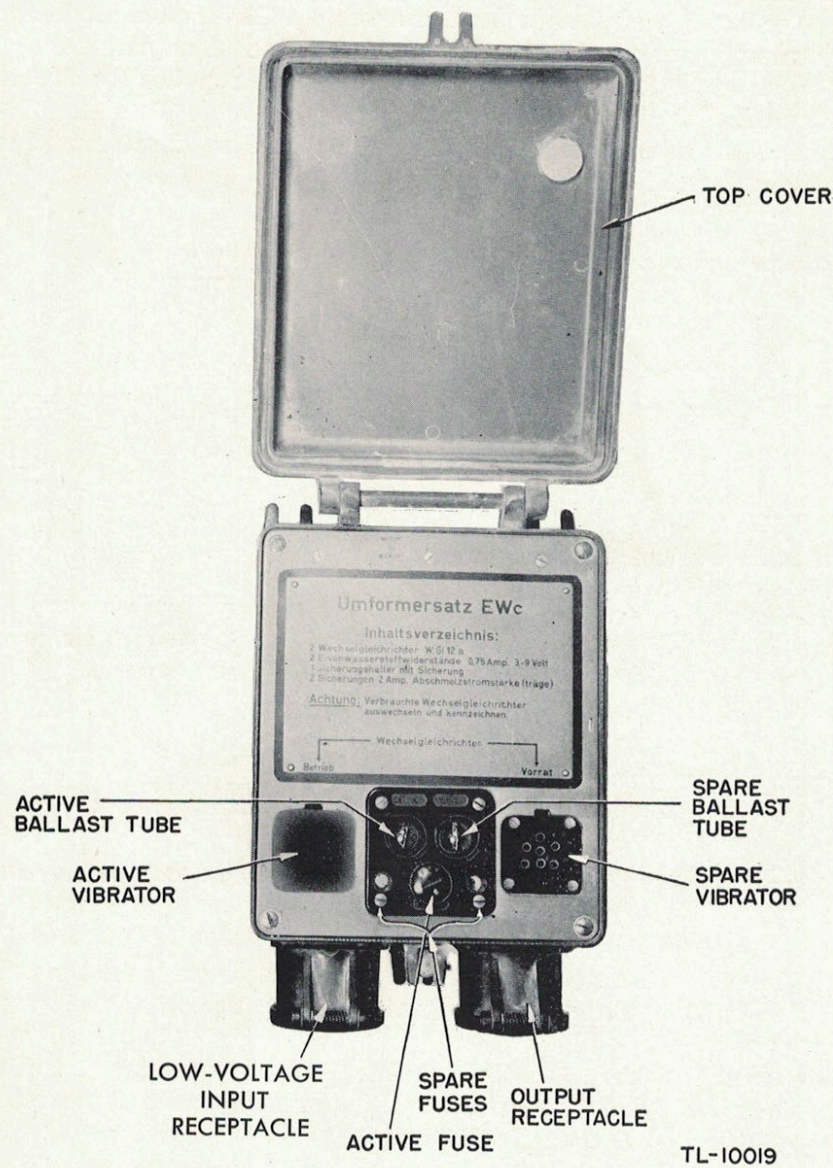

Figure 3. Vibrator power supply for German radio set Torn. E. b., top view with cover opened.
b. Vibrator Power Supply Type EWc. (1) The **Umformersatz EWc** (vibrator power supply type EWc) shown in figure 3, is used when the **Torn. E. b.** (portable receiver b) is operated from a 12-volt storage battery, such as is used in a vehicle. The **Umformersatz EWc** (vibrator power supply type EWc) draws about 1 ampere from a 12-volt storage battery. The output receptacle supplies 2 volts at 0.8 ampere for the filaments, and 90 to 100 volts at 10 to 12 milliamperes for the plates of the tubes in the set. The vibrator used is of the self-rectifying type.